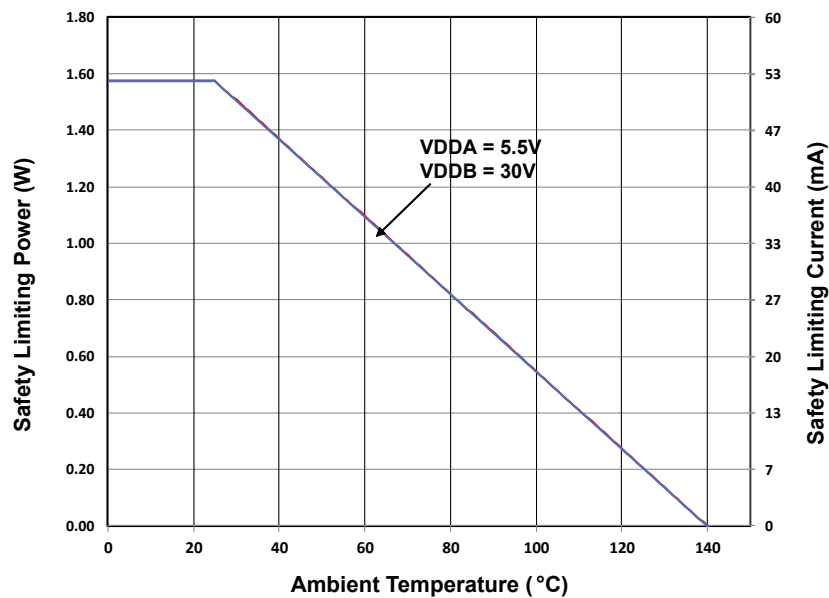

Figure 4.6. WB SOIC-16 Thermal Derating Curve
- See Figure 4.6 for Thermal Derating Curve.
- Updated Thermal Derating Curve, Figure 4.6.